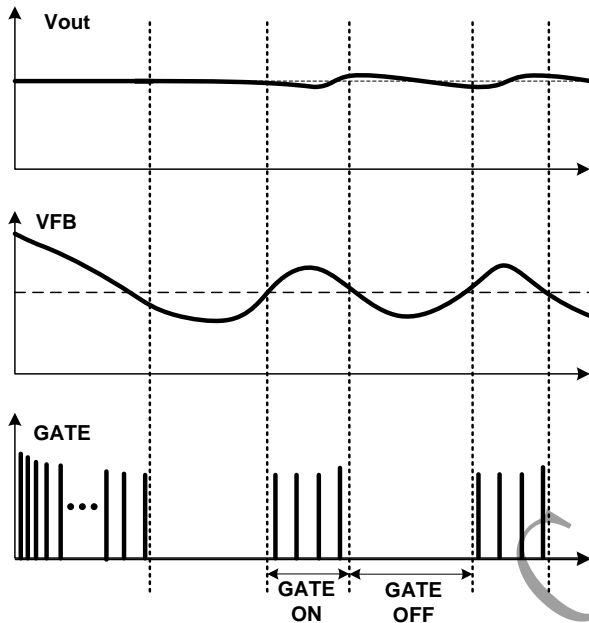

Fig.5
■ When zero or very light load conditions, the IC enters into burst mode. In the burst mode (as illustrated in Fig.5), the valley locking counting number is fixed at 8. In this way, a small standby power can be achieved.
When the loading is very small, the system enters into burst mode. When VFB drops below VFB_min_duty, SF5773 will stop switching and output voltage starts to drop, which causes the VFB to rise, as shown in Fig.5. Once VFB rises above VFB_min_duty, switching resumes. Burst mode control alternately enables and disables switching, thereby reducing switching loss in standby mode.